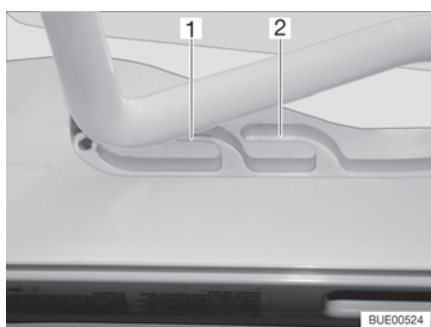
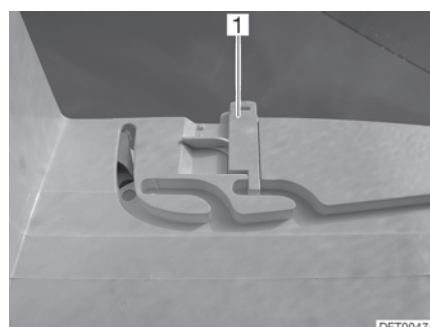

Fig. 19 Guide (ventilation position)
Fig. 20 Lock (ventilation position)
The Heki skylight can be put in two ventilation positions: Bad weather position (Fig. 19,1) and central position (Fig. 19,2). Depending on the model, the skylight can be locked in the central position with the latch (Fig. 20,1).
- Push the bar slightly upwards and into the selected guide (Fig. 19,1 or 2) and lock if necessary.